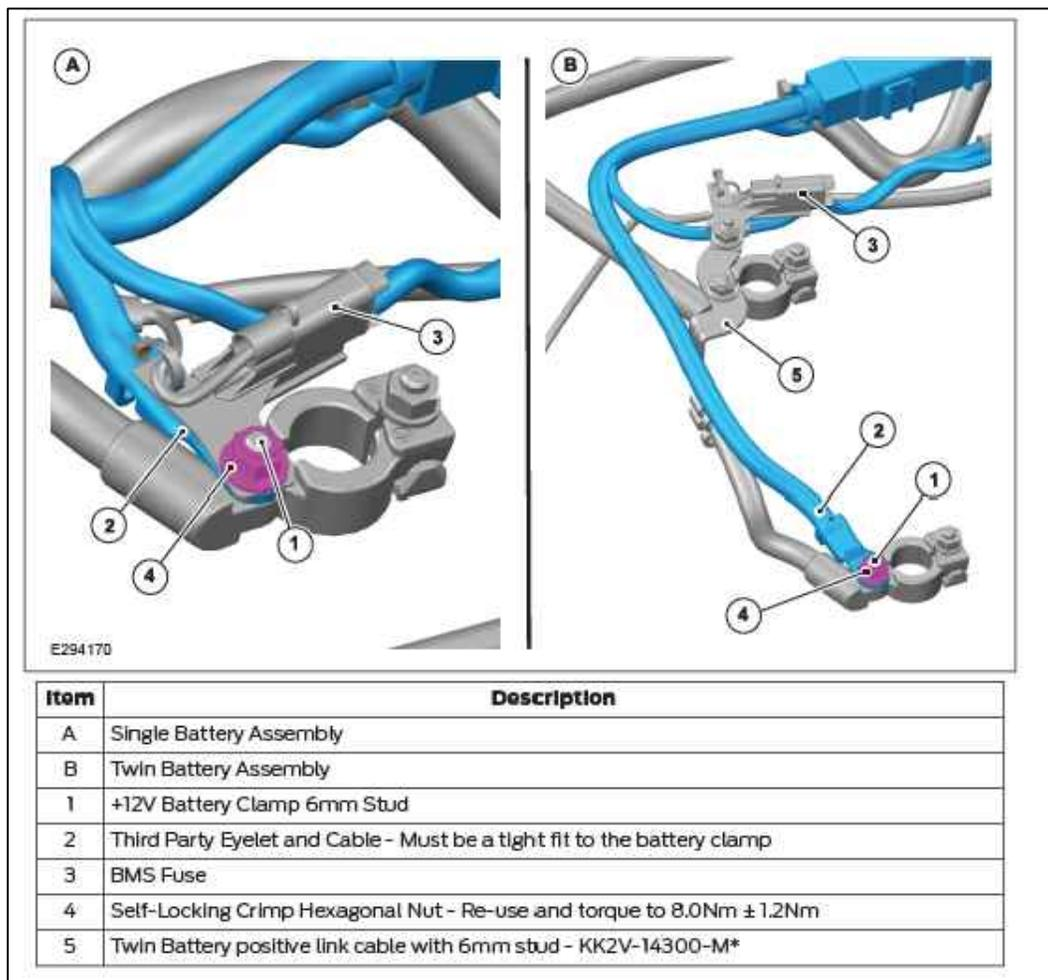

Figure 4: Battery diagram from 2020 Ford Transit Body and Equipment Mounting Manual (BEMM).
15. **Connect** the positive(+) lead to the M6 stud on the positive battery clamp. Reuse the M6 lock nut, when possible (Figure 4).